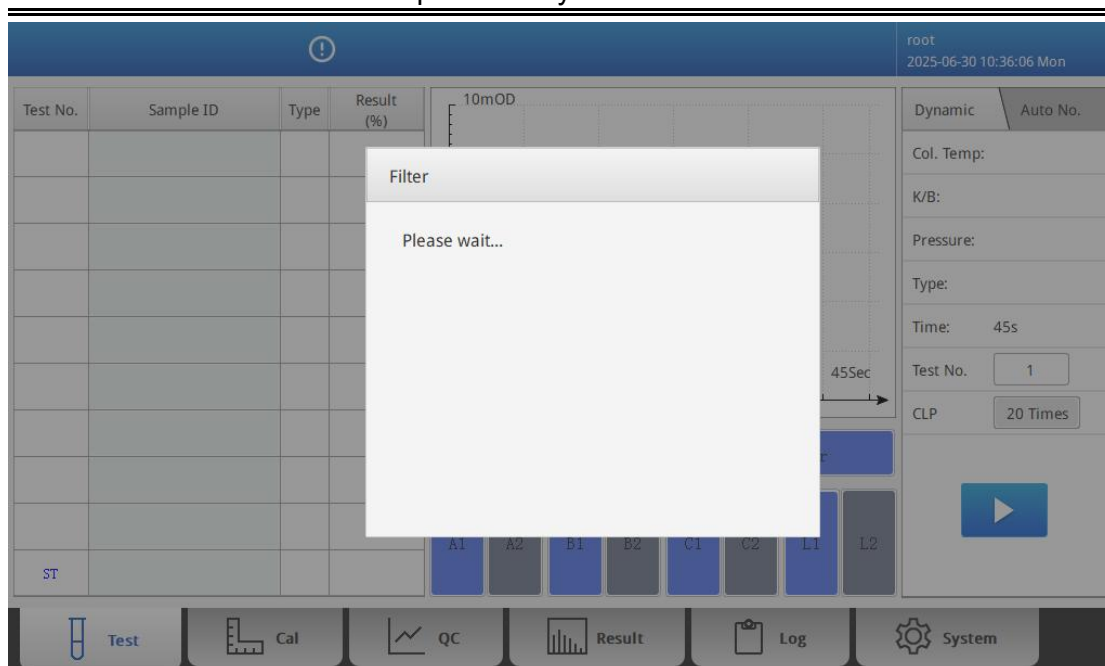

Fig 4-14 View of Filter Installation Procedure(2)
5) Press “**Replace**”, a prompt will show up as **Fig 4-14**.